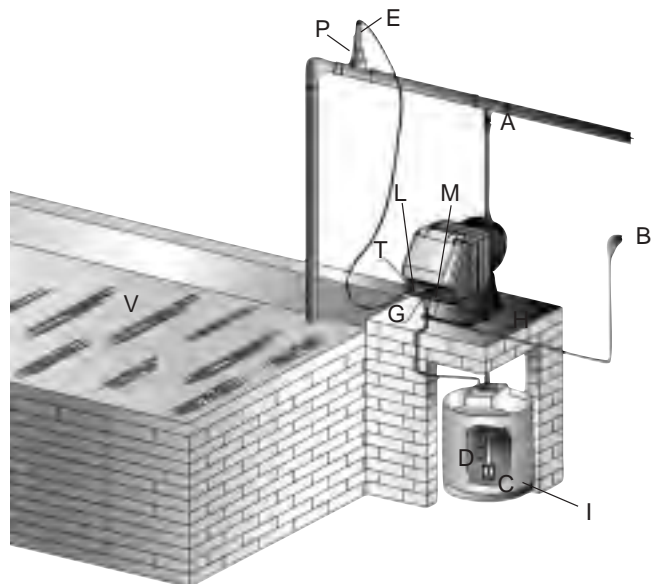

Fig. 12
- Locate the pump in position as shown in fig. 5 taking into account that it can be located over or under the liquid level within a maximum difference of 2 meters. The injection point must always be located higher than the liquid being injected. Do not install the pump directly on the tank as some additives produce vapour which may damage the equipment. For correct installation see fig.12. If the plant being treated operates at atmospheric pressure (free discharge additive) and the additive tank must be placed higher than the injection point (Fig. 6), check periodically that the injection valve is operating correctly, as excessive wear could cause additive injection by liquid loss (even when the plant is not operating). If the problem persists, insert a correctly calibrated **counter pressure valve C** between the dosing pump and the injection point (Fig. 6). For liquids that give off aggressive exhalations, do not install the pump over the tank unless the tank is hermetically sealed.
[fig.12]